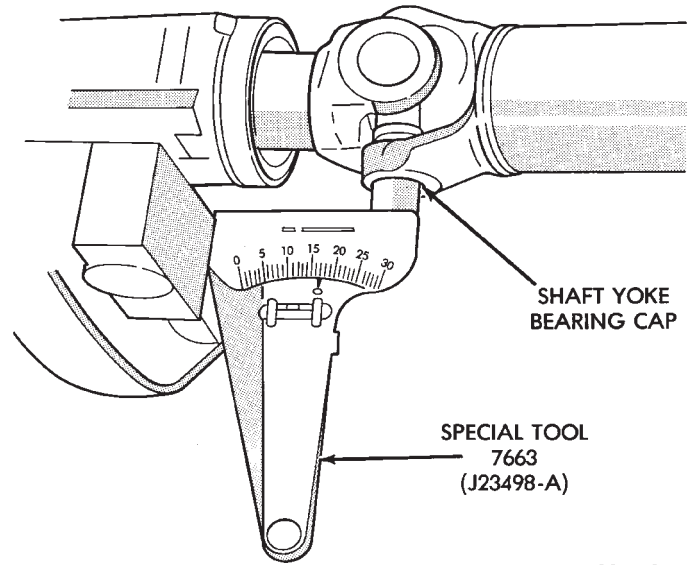

Fig. 10 Propeller Shaft Angle Measurement (C)
(4) Rotate propeller shaft 90 degrees and place Inclinator on yoke bearing parallel to the shaft (Fig. 10). Center bubble in sight glass and record measurement. This measurement can also be taken at the rear end of the shaft.